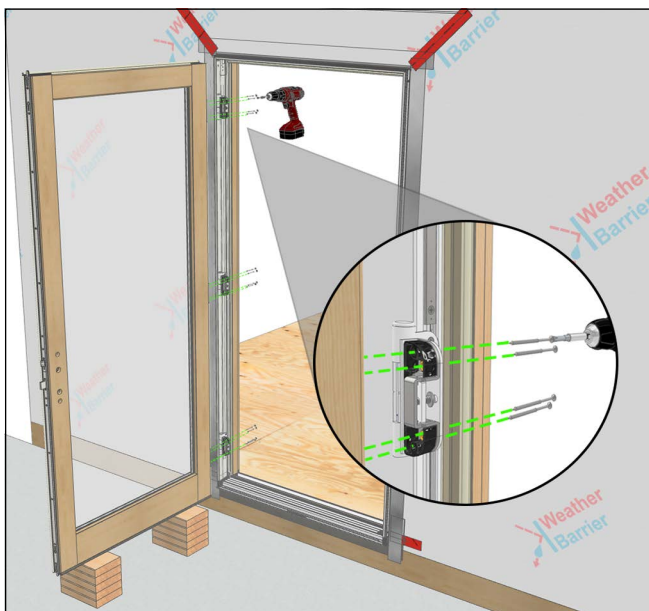

Figure 8
1. Frame comes with hinges pre-installed. Fasten panel to frame using #4 x 2-1/2" matching screws to attach each hinge of the panel. Adjust panels for reveal and closure after install. See Figure 8.